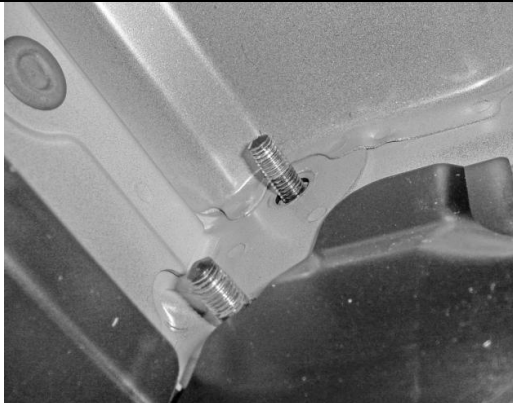

Figure 8 – Remove impact beam.
9. Remove the impact beam, by removing bolts x 4. 2 bolts are shown in Figure 8 and 2 are on the other side.